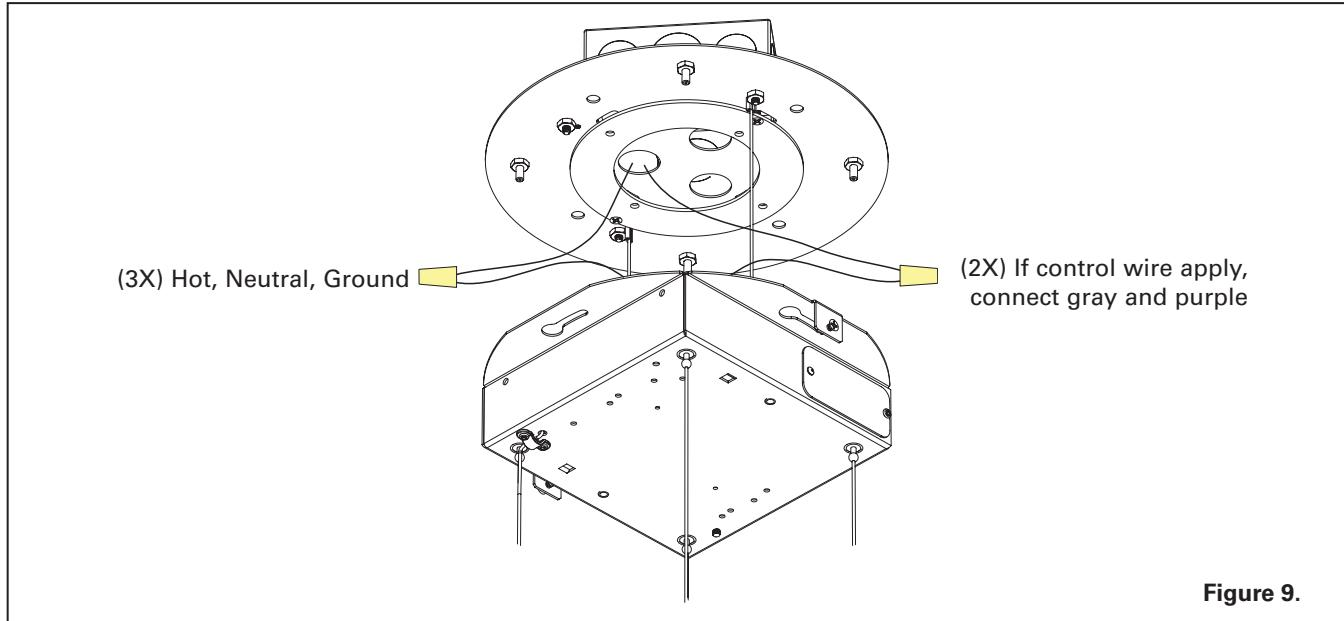

Figure 9.
Step 10. Connect the wires (main line) coming from J- Box with the driver. Figure 9